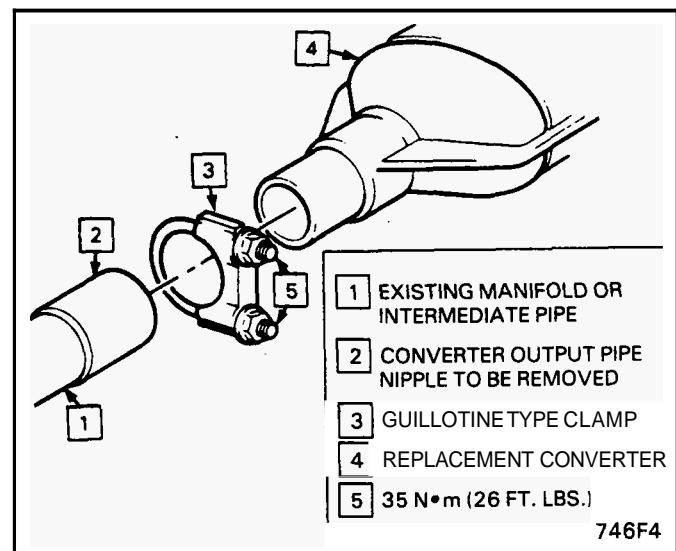

Figure 6F-4 "N" Series Replacement converter Installation
- Support intermediate pipe and cut pipe at converter just behind sizing as shown in Figure 6F-1. Do not remove portion of pipe left in the converter opening.